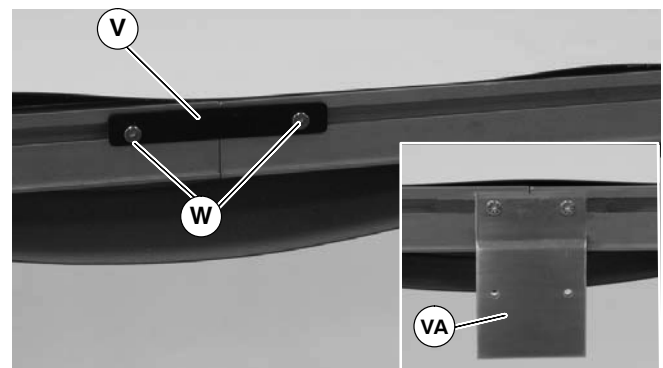

Figure 7
4. Join conveyor sections and install frame connector plates (V of Figure 7) or connector/mount brackets (VA) and screws (W) on both sides as indicated. Tighten screws to 60 in-lb (7 Nm).